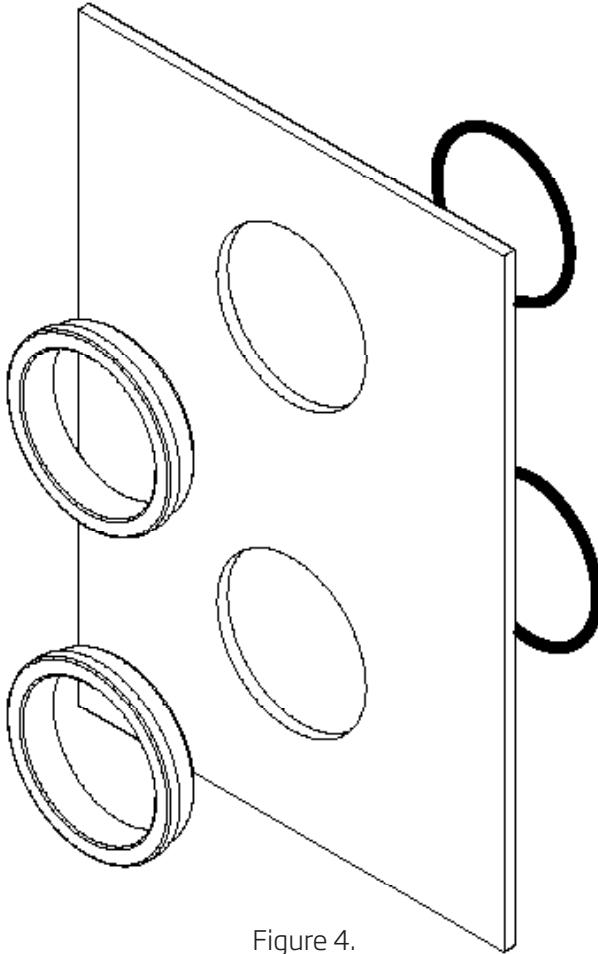

Figure 4.
5. Insert the fixing collars (packed inside the handle box) through the holes in the cover plate and secure to the back of the plate using the black rubber retaining O-rings. (Figure 4)